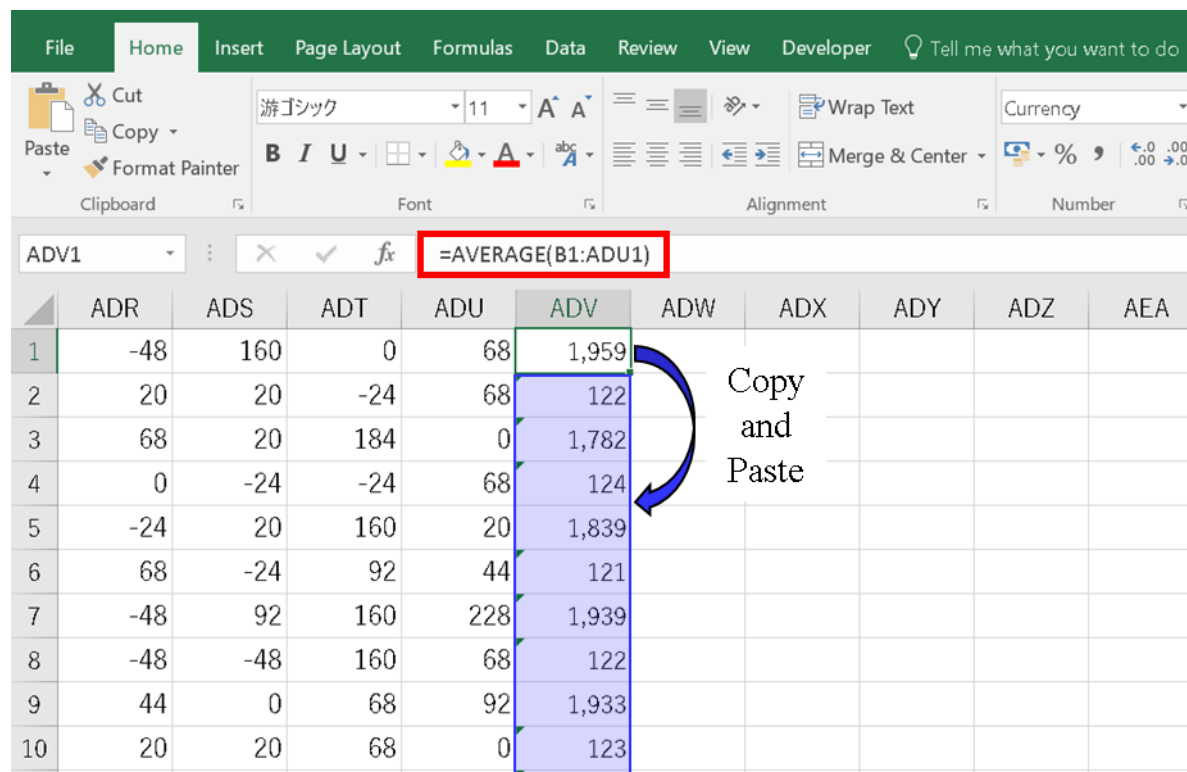

Figure 19. Process to average echo data.
- 2) Input “=AVERAGE(B1:ADU1)” in cell ADV1 for calculating the average value from cell B1 to ADU1(Figure 19).
- 3) Copy cell ADV1. Select the whole column ADV and paste the formula (Figure 19). Then the low and high average values are being alternately shown in column ADV.